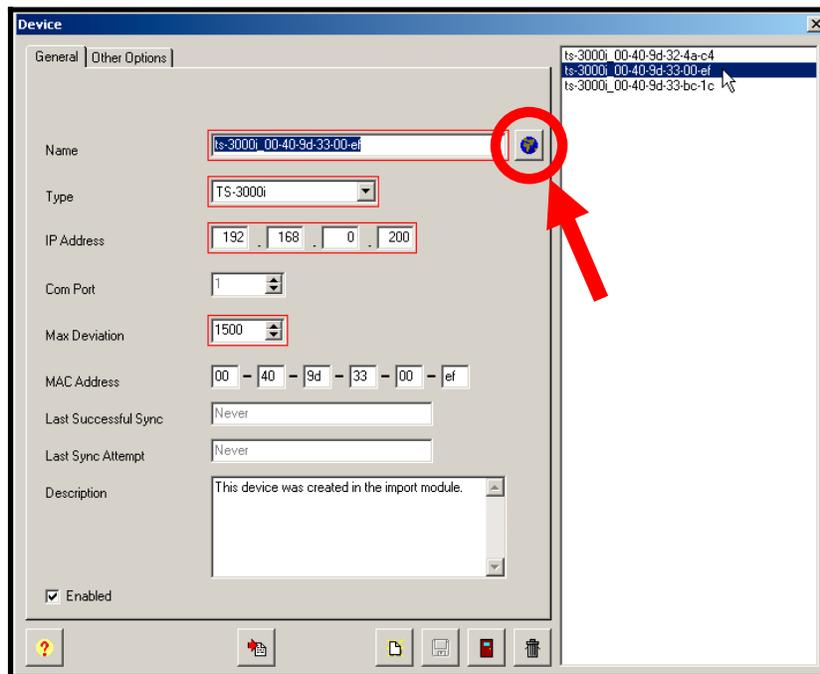

Figure 6-9: Imported TS-3000i Clocks
click on it, or click on the Edit  button, and the device screen for that device will appear. All imported devices (TS-3000i clocks) will appear in a list on the right-hand side (see *Figure 6-9*). When you click on the device in the list the
Launch web browser  button will appear to the right of the device (clock) name (see *Figure 6-9*).
Step 2. Select a Group from the expanded list and click on the **New**  button. The Device screen will appear (see *Figure 6-9*).